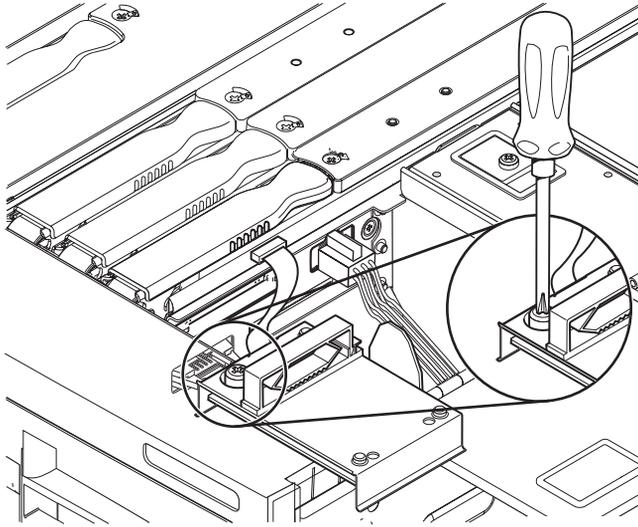

FIGURE 5-23 Loosening the SCC Reader Captive Screw
10. Loosen the captive screw securing the SCC reader (FIGURE 5-23).
9. Tighten the captive screw (FIGURE 5-23).